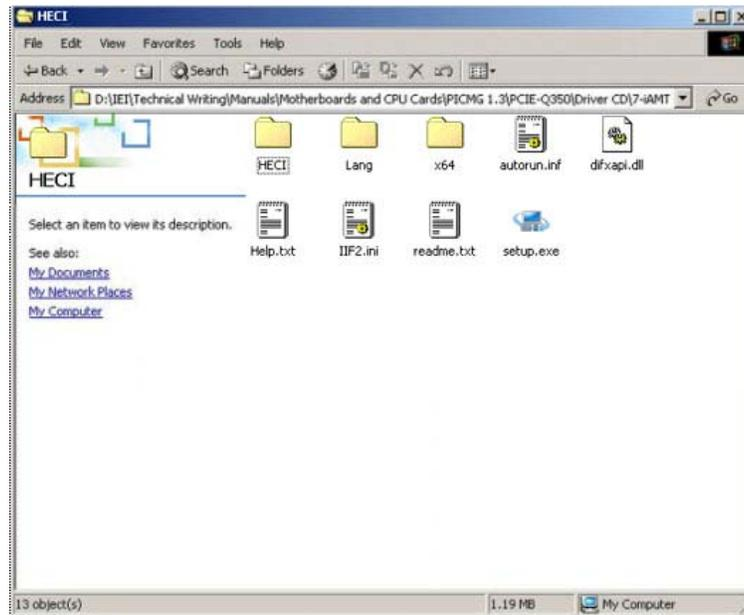

Figure 6-43: HECI Driver Installation Icon
Step 14: Click on the HECI directory icon. The window in **Figure 6-43** appears.
Step 15: Double click the setup icon in **Figure 6-43**.